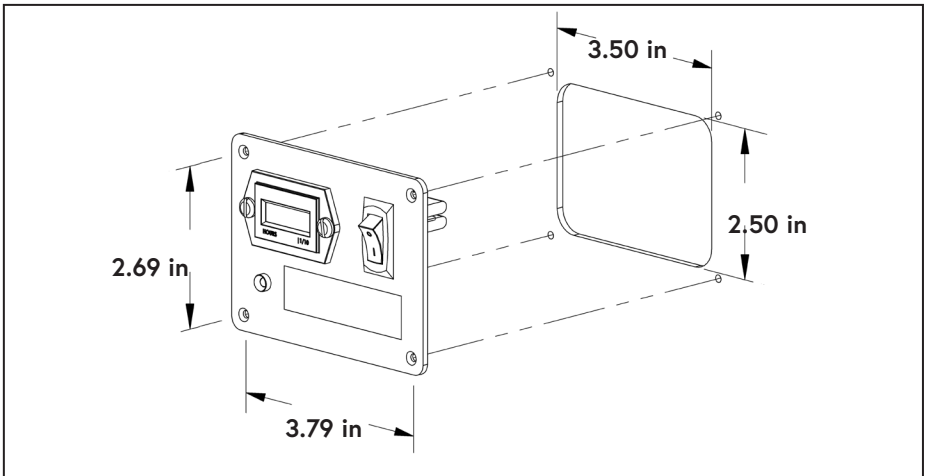

Figure 79 — Interface Panel mounting dimensions
- Install the Interface Panel in a suitable location (Figure 79).